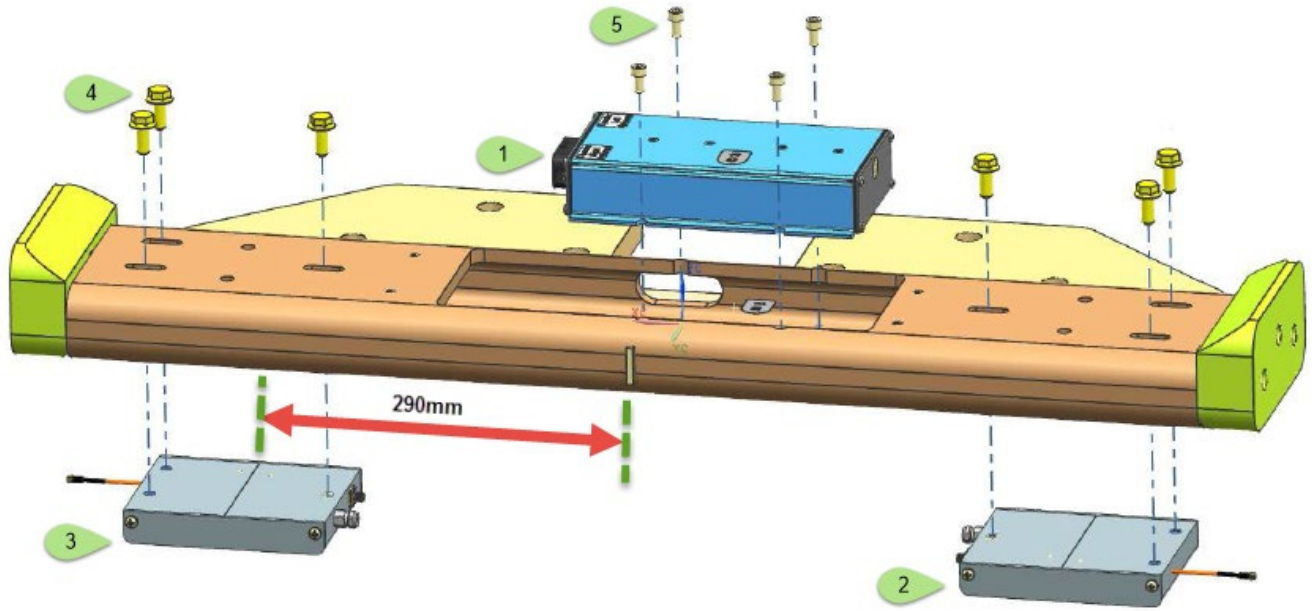

Figure 1 - Bumper Assembly
- Secure the antennas ensuring that the measuring groove located on the top of the antenna is **290mm** [Figure 1] from the center of the bumper
### 3.2.1.1 Part Numbers & Torque Settings [Figure 1]